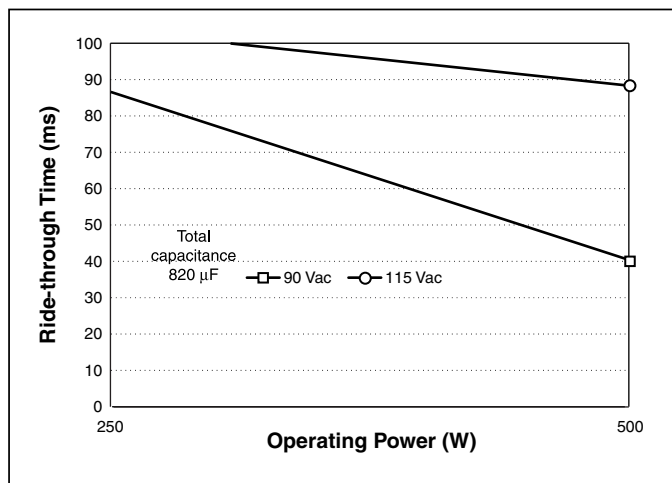

Figure 14 — Ride-through time vs. operating power
**Determining Ride-through Time.** *Figure 14* illustrates ride-through time as a function of line voltage and output power, and shows that at a nominal line of 90 Vac, ride-through would be 68 ms. Ride-through time is a function of line voltage.